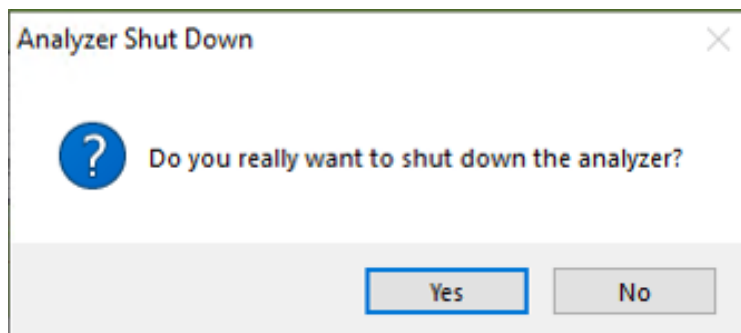

Figure 1: Shutdown Confirmation Pop-Up Dialog
3. A window will pop-up (Figure 1) asking the user to confirm the shutdown. (Note: If three options are given on an older instrument, choose the “**For Shipment**” option.)